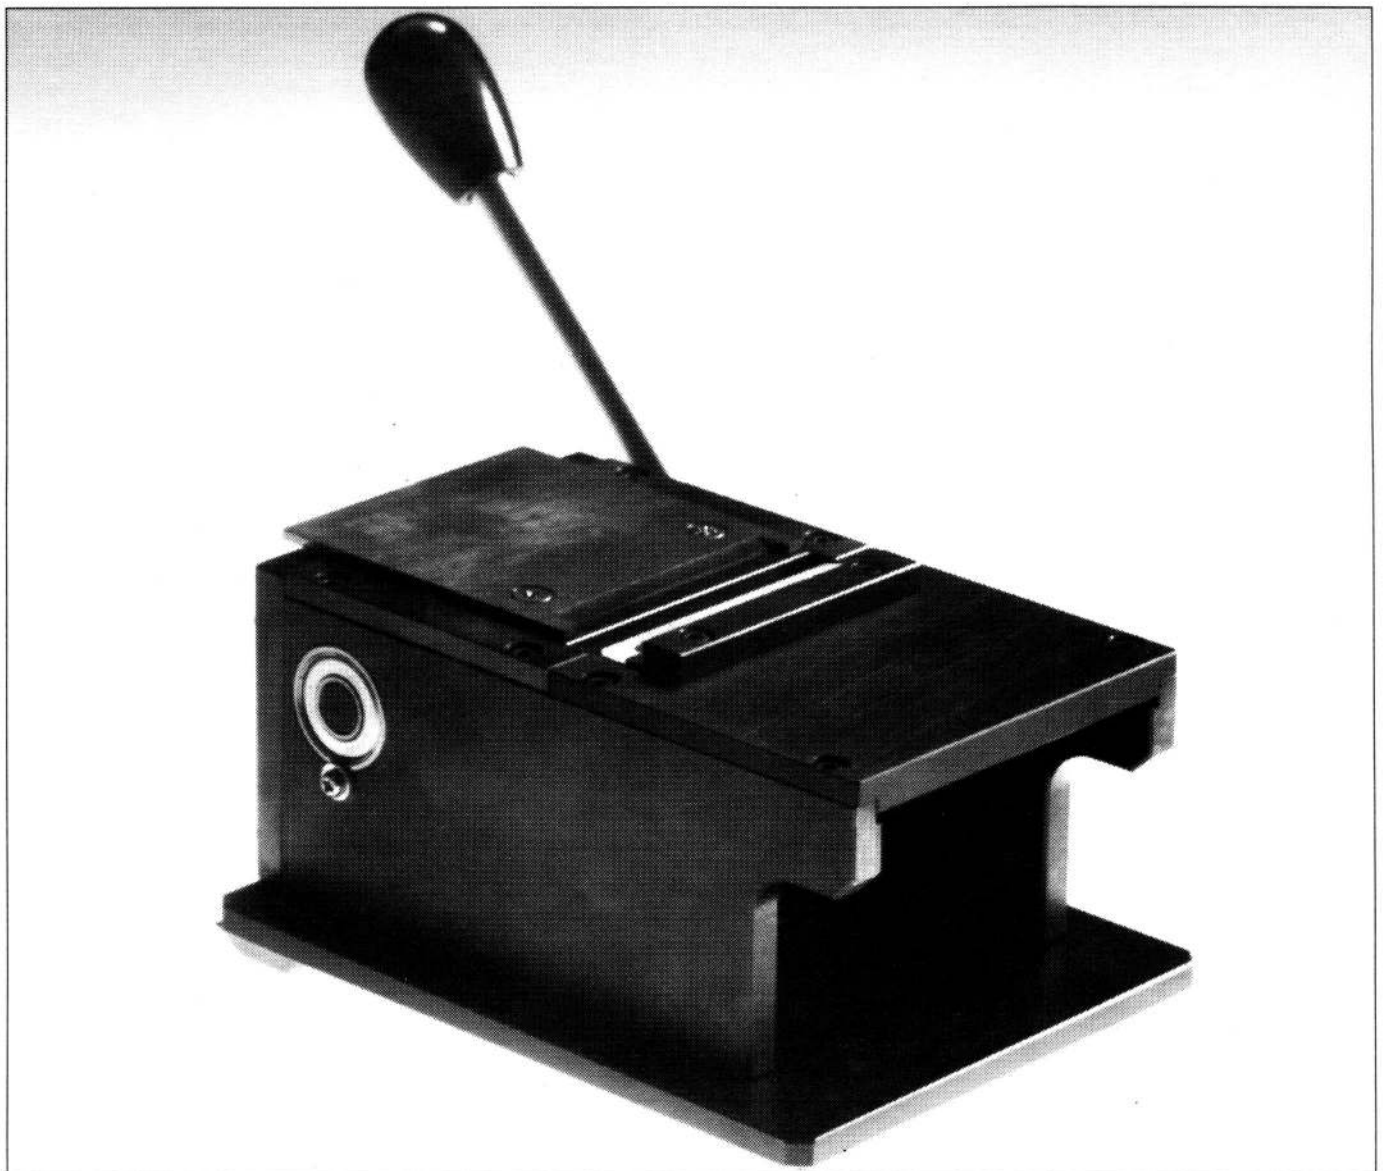

Figure 1
1. Place the tool on the table with the handle on the right side (Fig. 1).